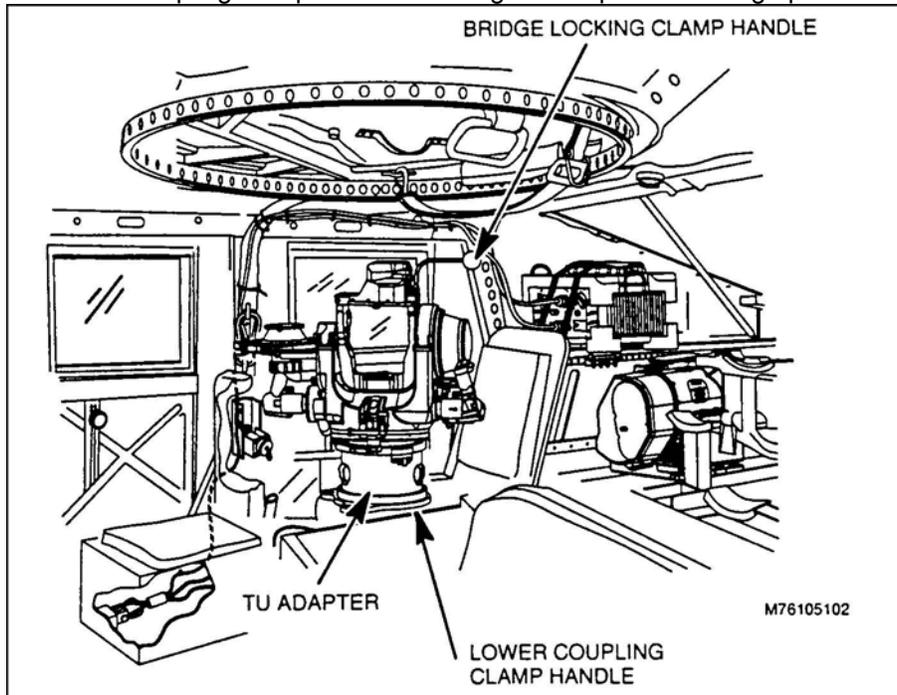

Figure 4. TU stowed on TU adapter.
- 2. Mount traversing unit (TU) on weapon station pedestal mount.
- a. Release lower coupling clamp handle securing TU adapter to stowage pedestal (Figure 4).